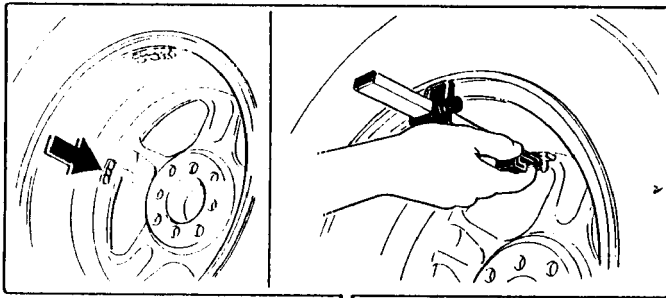
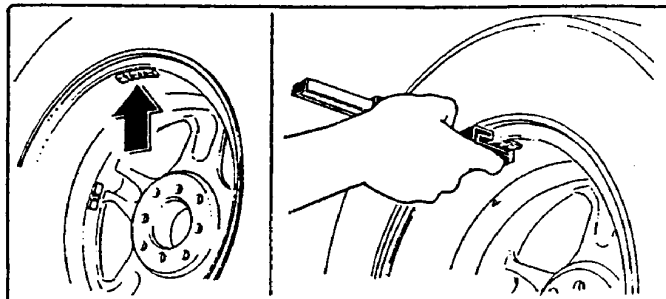

fig.22b
fig.22c
- Position the gauge with the base (A) on the inside rim flange.
- Slide the base A on the millimeter cursor (E) to position the outside jaws (C) to the best position required for the fixing of the weight.
- Fix the base (A) with the screw knob (D).
- Move the wheel into position and put the weight (given on the display as **external**) on the outside jaws (C).
- Move the base (A) to the edge of the rim (12 o'clock) and fix the weight with the extruder (F) (see fig. 22b).
- Move the wheel into position and put the weight (given on the display as **internal**) on the inside jaws (G).
- Move the gauge head (B) to the edge of the rim and fix the weight with the extruder (F) (see fig. 22c).